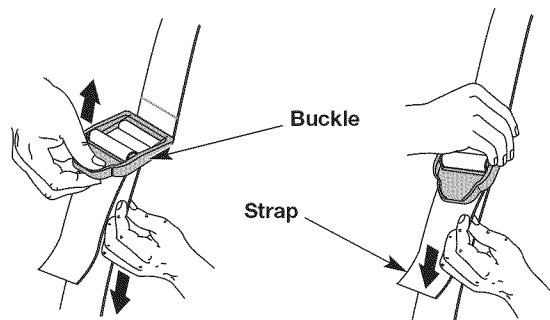

Fig. 5
5. Adjust the shoulder strap to fit the operator (Fig. 5). Pull the buckle up to loosen the shoulder strap. Pull the strap down to tighten the shoulder strap.